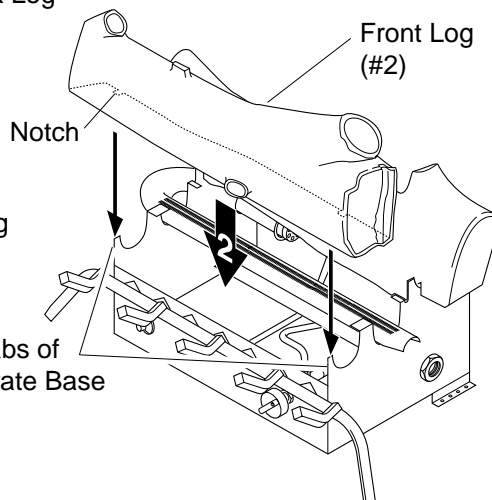

Figure 18 - Installing Front Log
2. Locate the notches on the back of the front log (#2). Slide these notches over the tabs of the grate base (see Figure 18).